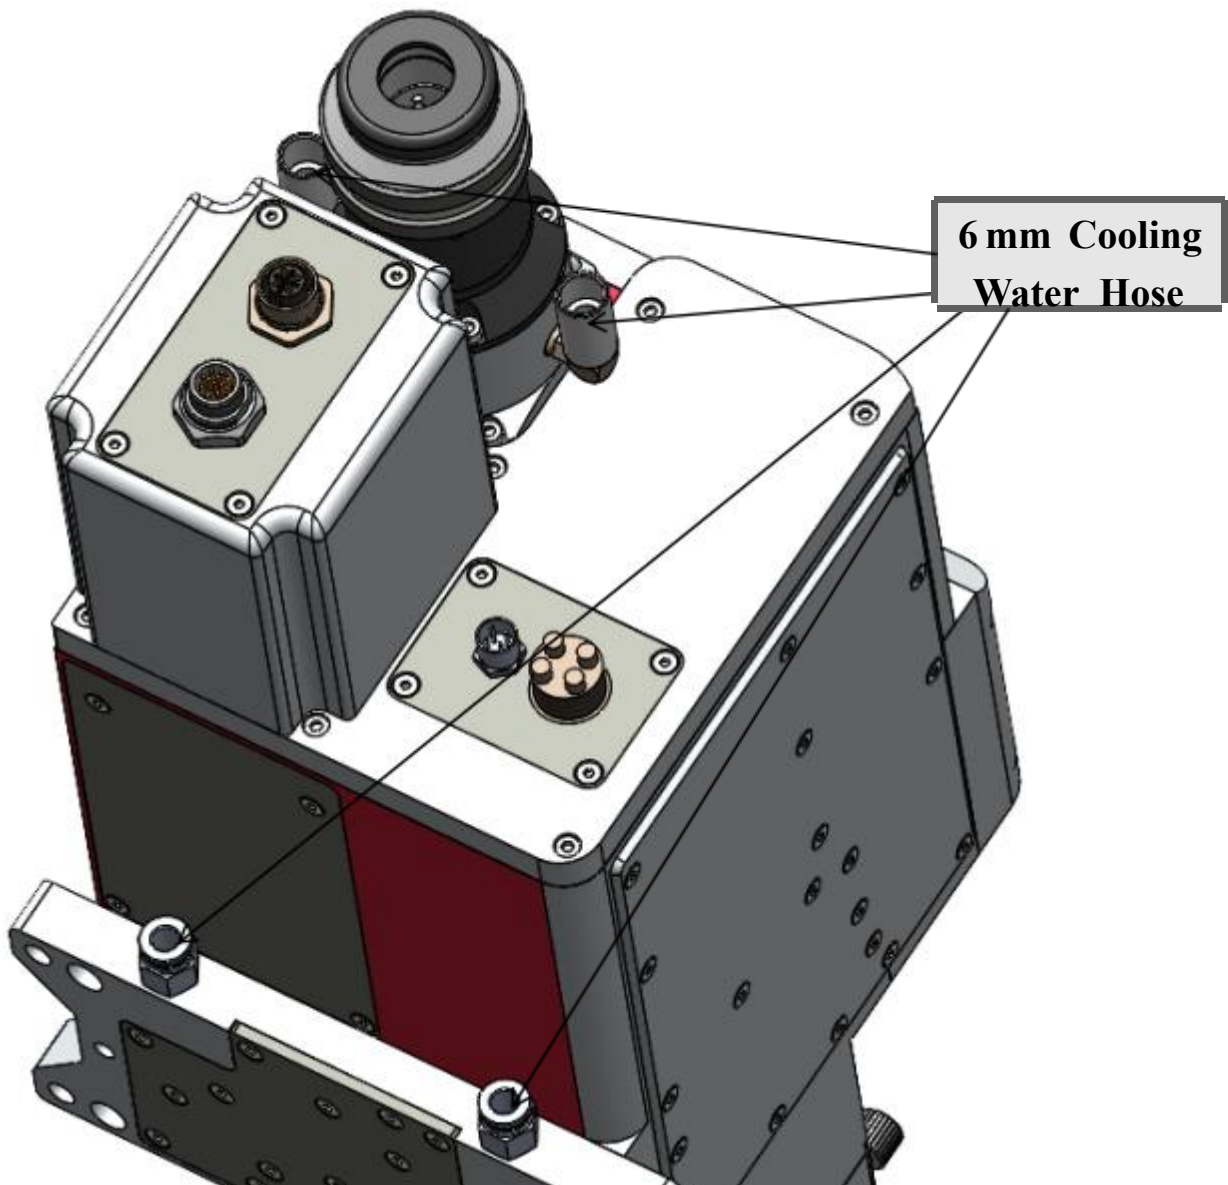

Figure 1.4
- ① Used for cooling QBH and cutting head, one inlet and one outlet, as shown in Figure 1.4 below: